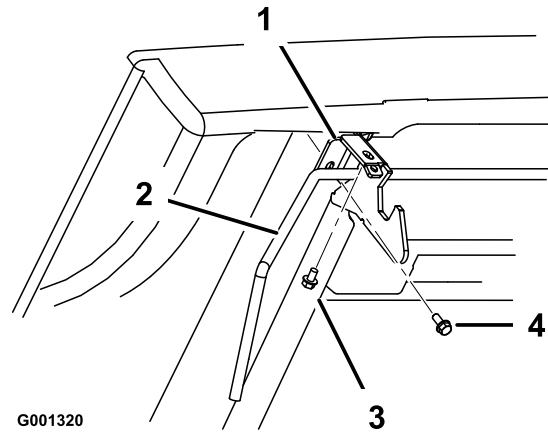

Figure 3
5. Remove the 2 flange head screws securing each side of the latch rod bracket to the underside and front face of the box (Figure 3). Retain all parts for future use.